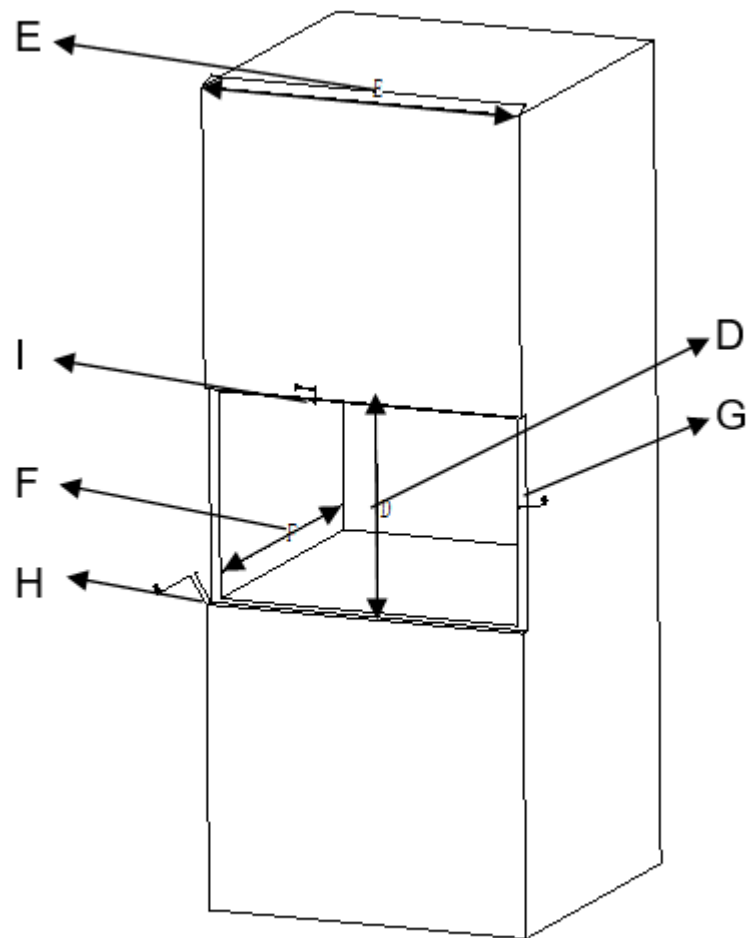

Fig. 7
Opening size: (W)600x(H)378x(D)550(mm) as shown in Fig.7“D”, “E”, “F”.